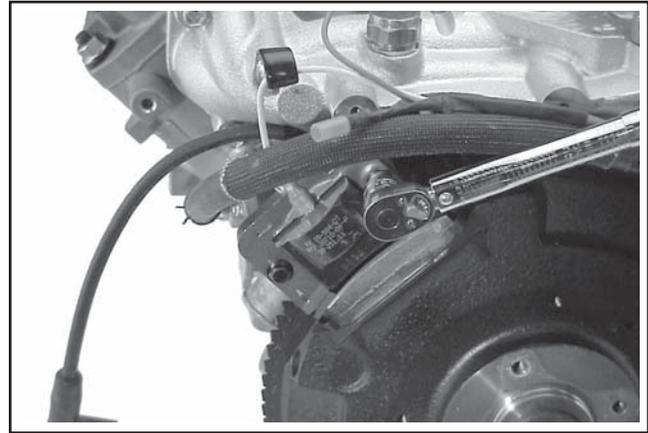

Figure 11-72. Torquing/Setting Ignition Module Gap.
- Torque the two hex flange screws to **4.0 N·m (35 in. lb.)**. See Figure 11-72.